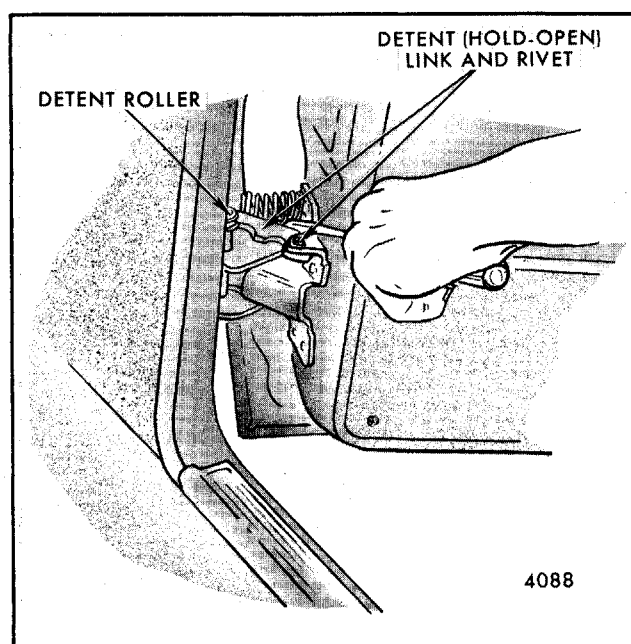

Fig. 5-89-Front Door Hinge Hold-Open Spring Removal - "X" Styles
2. Disengage door hold-open spring from lower hinge assembly by prying upward against spring with a suitable prying tool (Fig. 5-89). Use care not to damage hold-open link.